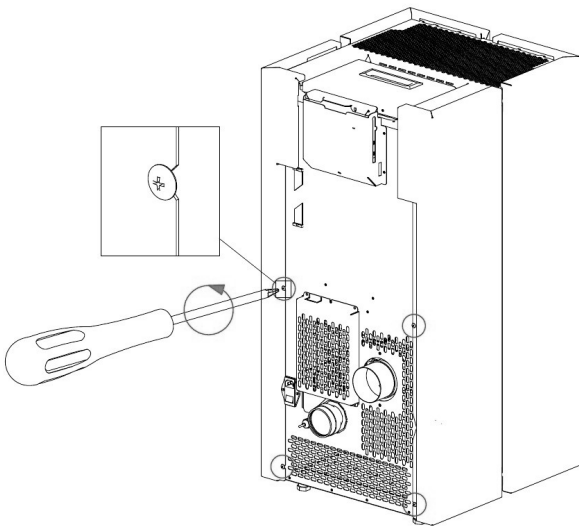

Fig. 52 - Remove screws
- Loosen the 4 back screws (see **Fig. 52**).